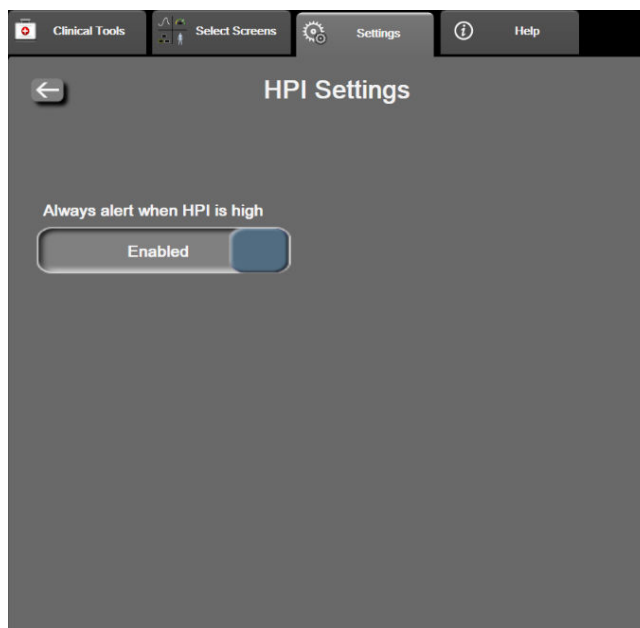

Figure 14-4: Parameter settings - Hypotension Prediction Index
5. Touch the **Always alert when HPI is high** toggle button to switch to **Disabled**. See Figure 14-4 on page 243.